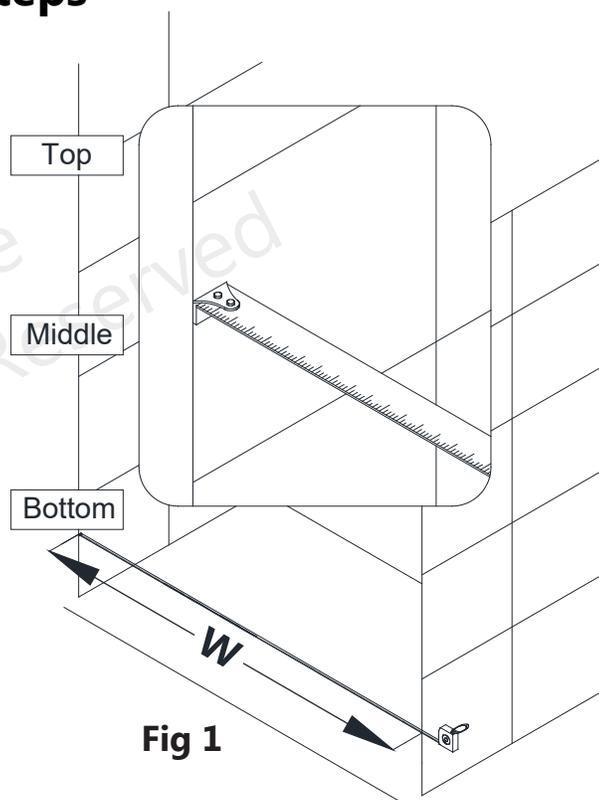

Fig 1
1. Measure the distance between the two finished walls at the top (at model height: 58" or 72"), middle and bottom. The wall profiles will adjust for out-of-plumb conditions, so **use the smallest measurement as the "finished opening" (W)** dimension to determine the finished cut length in Step #2. (Fig 1)